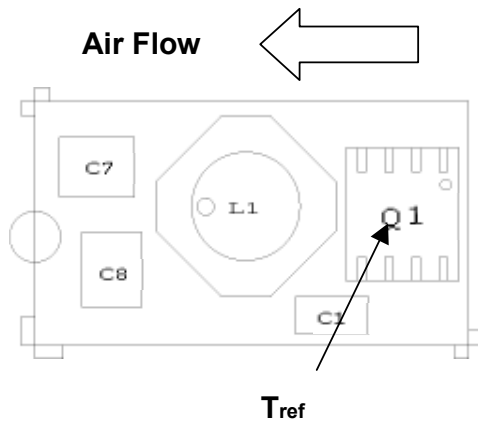
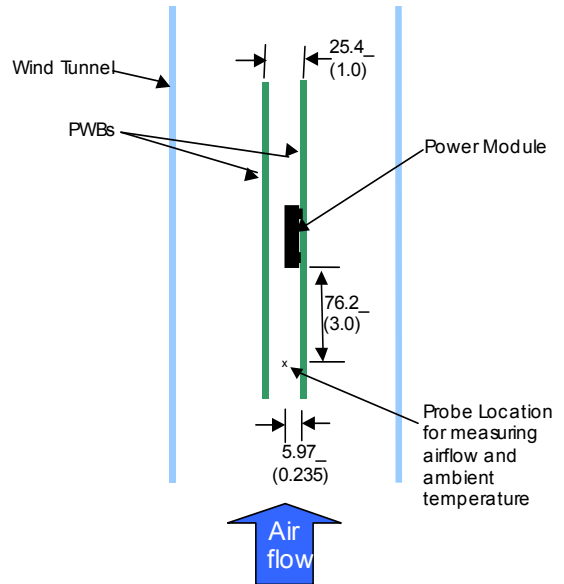

Figure 31.  $T_{ref}$  Temperature measurement location.
Figure 32. Thermal Test Set-up.
To provide over temperature protection in a fault condition, the unit relies upon the thermal protection feature of the controller IC. The unit will shutdown if the thermal reference point  $T_{ref2}$ , (see Figure 31) exceeds 140°C (typical), but the thermal shutdown is not intended as a guarantee that the unit will survive temperatures beyond its rating. The module will automatically restarts after it cools down.
Considerations include ambient temperature, airflow, module power dissipation, and the need for increased reliability. A reduction in the operating temperature of the module will result in an increase in reliability. The thermal data presented here is based on physical measurements taken in a wind tunnel. The test set-up is shown in Figure 32. Note that the airflow is parallel to the long axis of the module as shown in figure 31. The derating data applies to airflow in either direction of the module's long axis.
The thermal reference point,  $T_{ref}$  used in the specifications is shown in Figure 32. For reliable operation this temperature should not exceed 115°C.